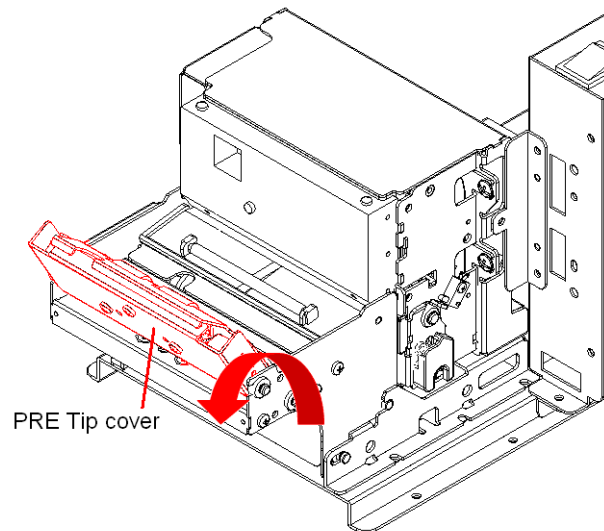

Fig.5.2-7 Cleaning paper load sensor
2. Force on the direction shown in Fig.5.2-7 until PRE top cover is turned and open;
- Shown as in Fig.5.2-7, turn and open PRE top cover;
(refer to Fig.5.2-7) , the path of presenter open completely;